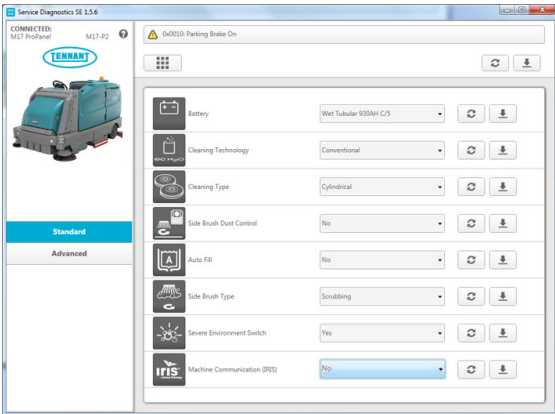

FIG. 25
- Correct the installed options. (Fig. 25)
- Press the down arrow button to program the machine. A green check appears next to the down arrow button when programmed. (Fig. 25)